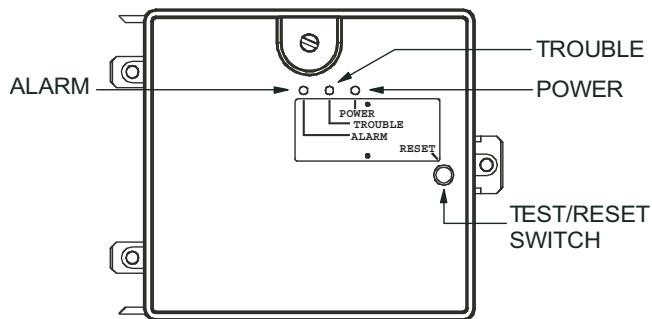

Fig. 26 — Controller Assembly
- The contacts on the controller's supervisory relay switch positions. (See Fig. 26.)